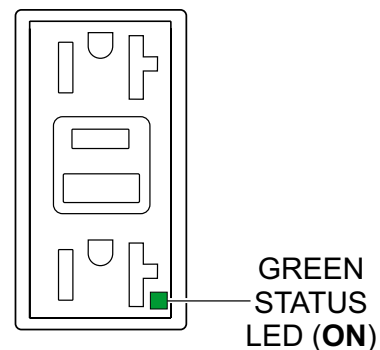

Figure 95. GFCI Receptacle (ON)
3. Verify that the status LED on the corresponding GFCI receptacle (Figure 95) is **ON (GREEN)**.